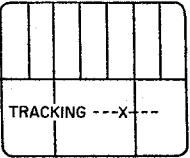
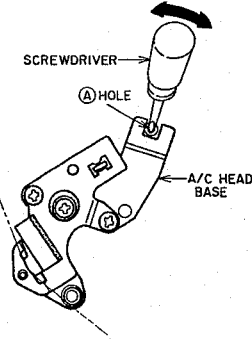

Fig. 4-15
Fig. 4-17
- 3) Press the "<" or ">" cursor button on the remote control until the "X" mark can be seen in the center position of the tracking range on the TV screen as shown in Fig. 4-15.
- 4) Loosen the ③ screw slightly so that the A/C HEAD PLATE can be moved with reasonable tightness.
- 5) Insert a sharp, flat head ⑤ screwdriver into the A/C HEAD BASE and ④ hole as shown in Fig. 4-17.
- 6) Move the A/C HEAD BASE by moving a screwdriver in the direction of the arrow as shown in Fig. 4-17 to obtain the maximum RF output, then tighten the ③ screw.